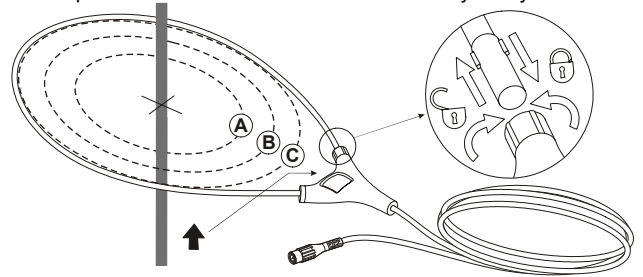

Figure 1. Connecting the flexible probe around the conductor.
• with position of conductor in the probe window (see figure 1):
2. Connect the flexible probe around the conductor (See Figure 1.)